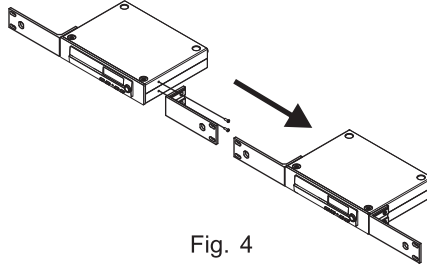

Fig. 4
1. Single half-rack receiver: Install the optional rack mount kit and fasten with screws on both sides Fig. 4.